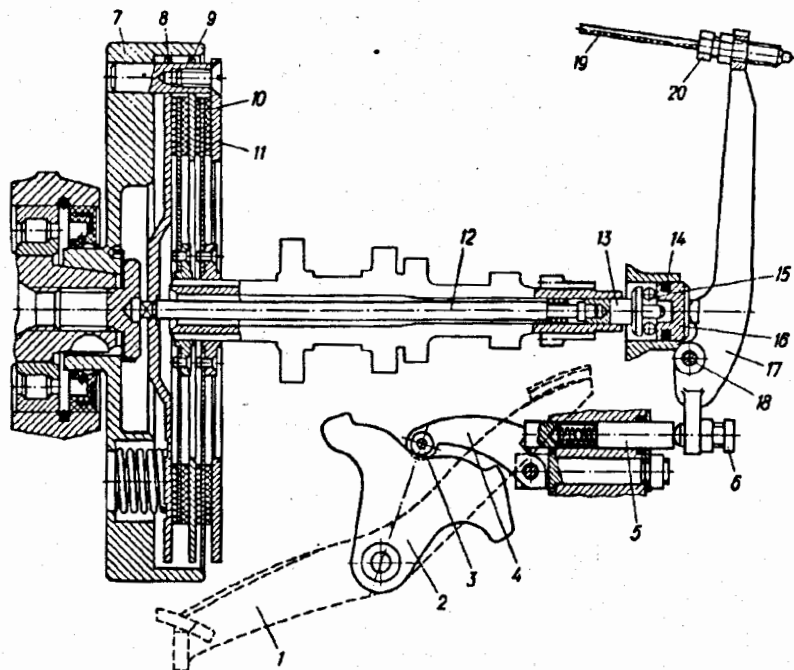

Fig. 22. Clutch and clutch release mechanism actuated at gear shifting:
The clutch consists of driven and driving parts and clutch release mechanism. The clutch driving parts include flywheel 7 (refer to Fig. 22) and pressure (8), intermediate (9) and bearing (11) disks mounted on the flywheel pins.
The clutch release drive is to be adjusted as required with the aid of adjusting bolt 6 (Fig. 22) and adjusting screw 20 of clutch cable 19. First adjust the foot drive. If the latter is properly adjusted, there must be a small clearance between the adjusting bolt end and intermediate rod 5. The presence of a clearance is indicated by the rocking of shift pedal 1.
Clutch release mechanism actuated in gear shifting. When changing the gears, crank-cam 2 (Fig. 22) turning forward or backward from its middle position, raises the long arm with the roller of inner 4 arranged in the gearcase space.